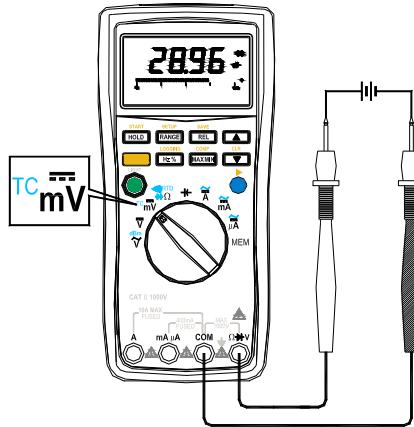

Figure3-4.DC mV Measurement
**Measuring DC mV Voltage (See Figure 3-4)**